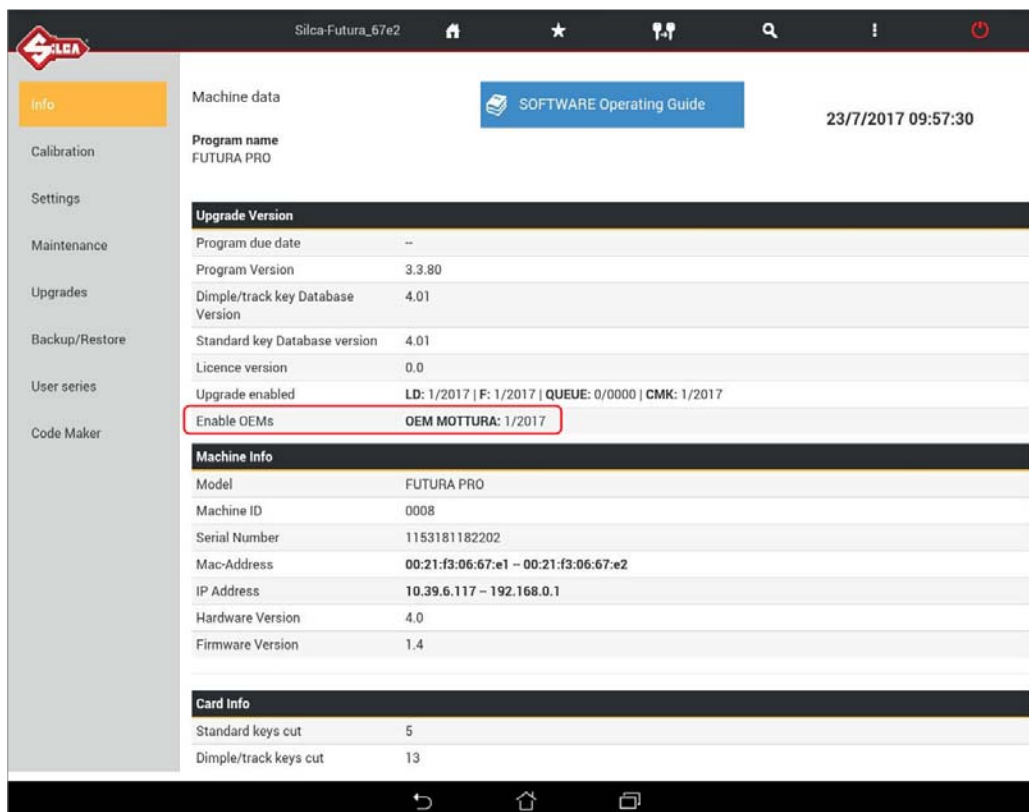

Fig. 3
- After the software update, check that enabling has been activated by selecting the INFORMATION window and checking the ENABLE OEMs section (Fig. 3).